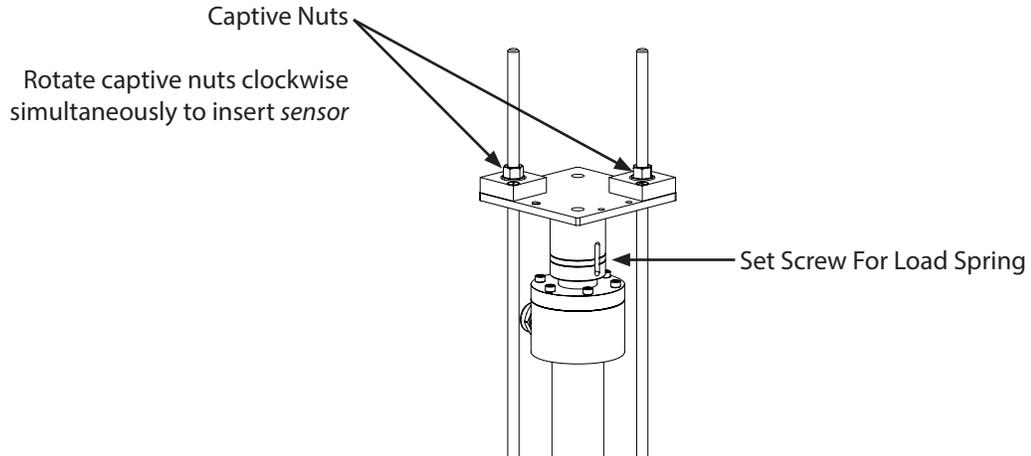

Figure 12: Captive Nuts
4. Insert the *sensor* into the pipe by *simultaneously* rotating the two captive nuts on the top plate clockwise (See Figure 12) with the provided 9/16" ratchet wrenches or the Sensor Insertion Tool (See STEP 12) until the foot of the *sensor* reaches the far wall of the pipe and the load spring starts to compress. Compression of the load spring is indicated by the movement of the set screw on the top plate. See STEP 13.